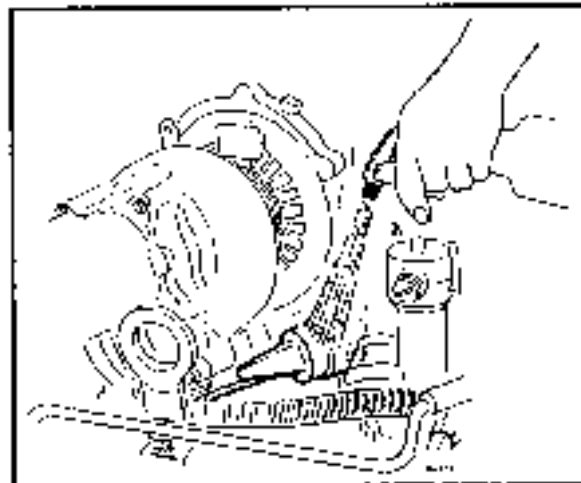

Figure 2.3-18. - Checking Actuator for Leaks
3. Spray leak detector Figure 2.3-18. around the actuator housing and slowly apply air pressure to the actuator. Actuator (shaft) movement (indicated by position of paint mark) should begin to occur between 17-19 psi.